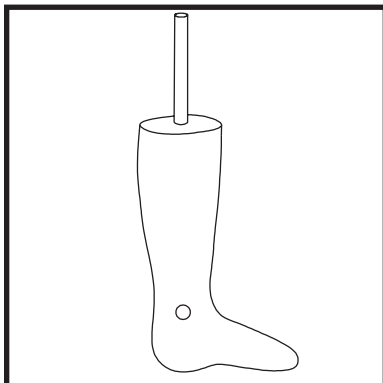

Figure 1: Positive Cast
1. Cut the alignment rod to provide a minimum of 3/16" ankle clearance per side, and place it in the negative cast. Pour the plaster cast as shown in Figure 1.